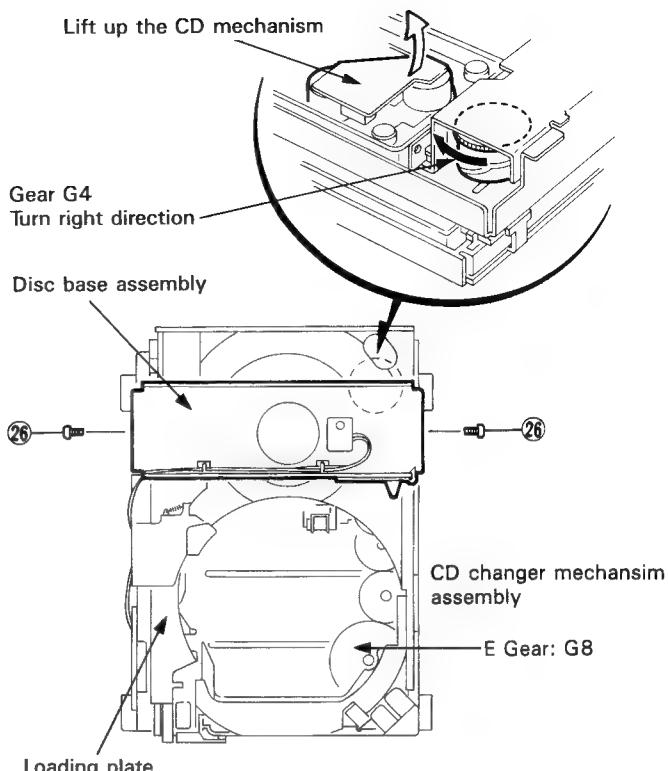
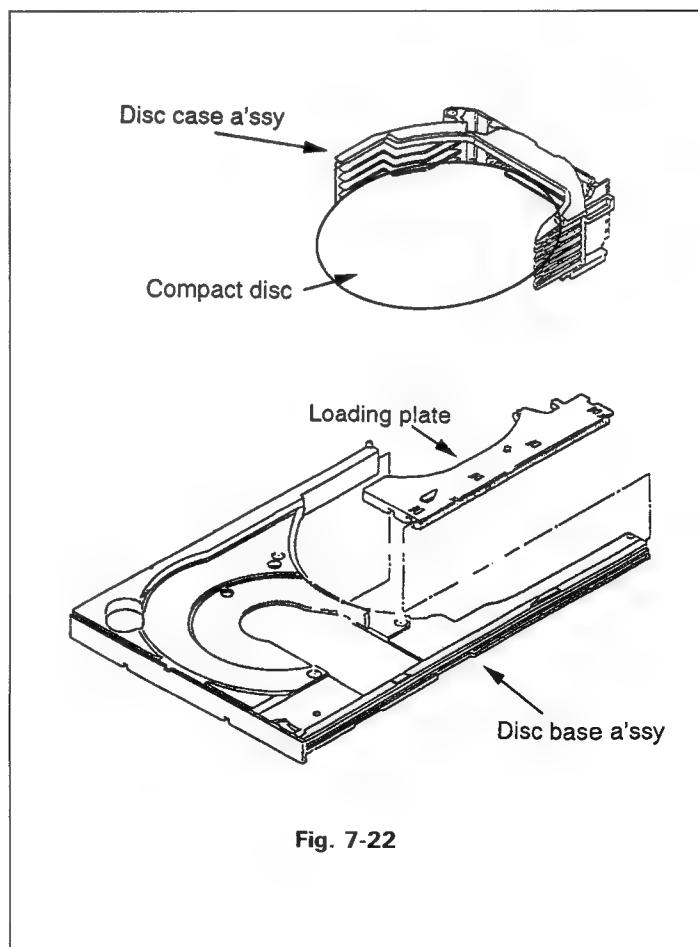

Fig. 7-21
Fig. 7-22
■ Method of removing the clamper base assembly (Refer to Fig. 7-21)
- 2-1. Method of ejecting the compact disc on the disc base ass'y (Refer to Fig. 7-21).
- (1) Turn the gear G4 clockwise and lower the CD mechanism.
- (2) When the loading plate is located at the rearmost position, move the plate to the front panel side (At this time, the compact disc will be set on the disc base ass'y by the loading plate).
- (3) By moving the disc base ass'y to the front panel side, take out the compact disc.
- 2-2. Method of ejecting the compact disc left on the disc case ass'y (Refer to Fig. 7-22)
- (1) Move the loading plate to the rearmost position.
- (2) Turn the E gear G8 counterclockwise, and move up the disc case ass'y into which any compact disc has been loaded.
- (3) While turning the E gear G8, align the first compact disc (the lowermost compact disc on the disc case ass'y) to its loading position to the loading plate.
- (4) After the loading plate onto which the first compact disc is loaded has been moved to the front panel side, pull out the disc base ass'y from the front panel side and take out the compact disc.
- (5) Eject the second through sixth compact discs as well similarly according to the procedures in Items 1 through 4. Whenever the second and subsequent discs are to be ejected, however, align the compact disc to be ejected to the height of the loading plate.